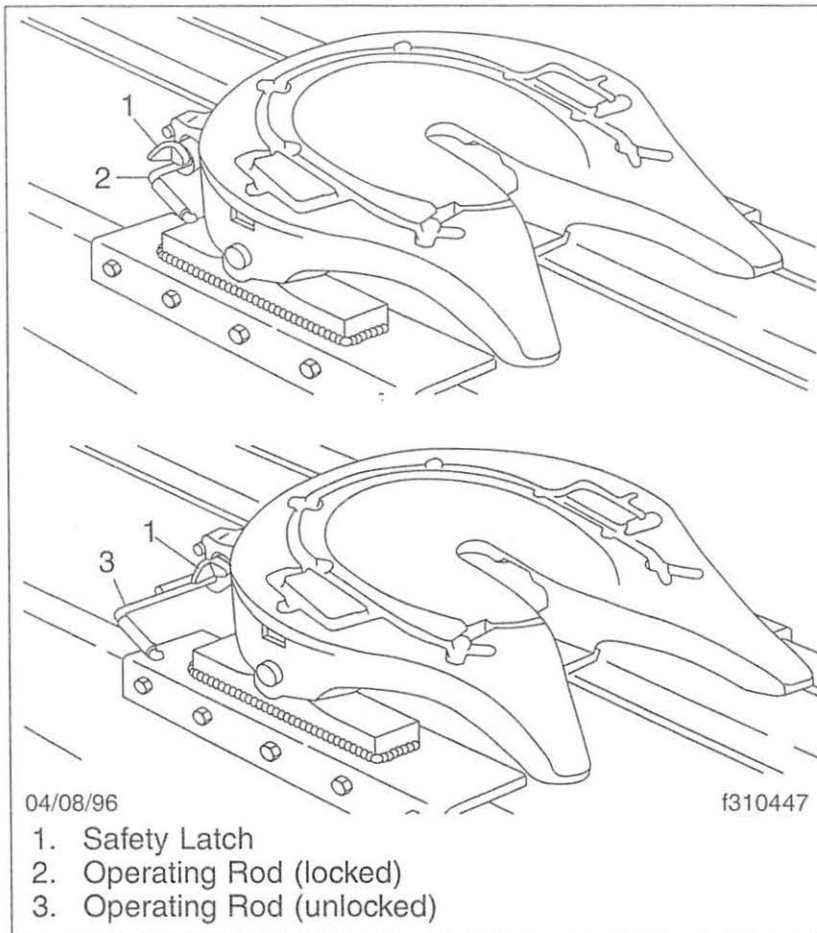

Fig. 10.11, Simplex Kingpin Locking Mechanism, Locking and Unlocking
Placing the operating rod in the lockset position moves the lock away from the jaw. This action unlocks the jaw so that it can be rotated by movement of the kingpin. When the tractor is moved out from under the trailer, the kingpin will rotate the jaw until the jaw is in the unlocked position, allowing the kingpin to move out of the mechanism. With the jaw in the fully open position, the operating rod drops out of the lockset position, and the fifth wheel is ready for coupling. See **Fig. 10.11**.
6. *If equipped with a manual kingpin lock release:* Release the kingpin lock mechanism by raising the safety latch to the rear and pulling the lock operating rod out and up into the lockset position. See **Fig. 10.11**. The offset of the lock control upper rod should bottom against the plate casting above the hole. If the operating rod cannot be pulled to the lockset position, back the tractor slightly to release the kingpin force against the jaw.
If equipped with an air-operated kingpin lock release: Pull the air-release knob on the dash. From outside the cab, visually check that the operating rod has bottomed out against the plate casting above the hole. See **Fig. 10.11**. If the operating rod isn't in the unlocked position, back the tractor slightly to release the kingpin force against the jaw.